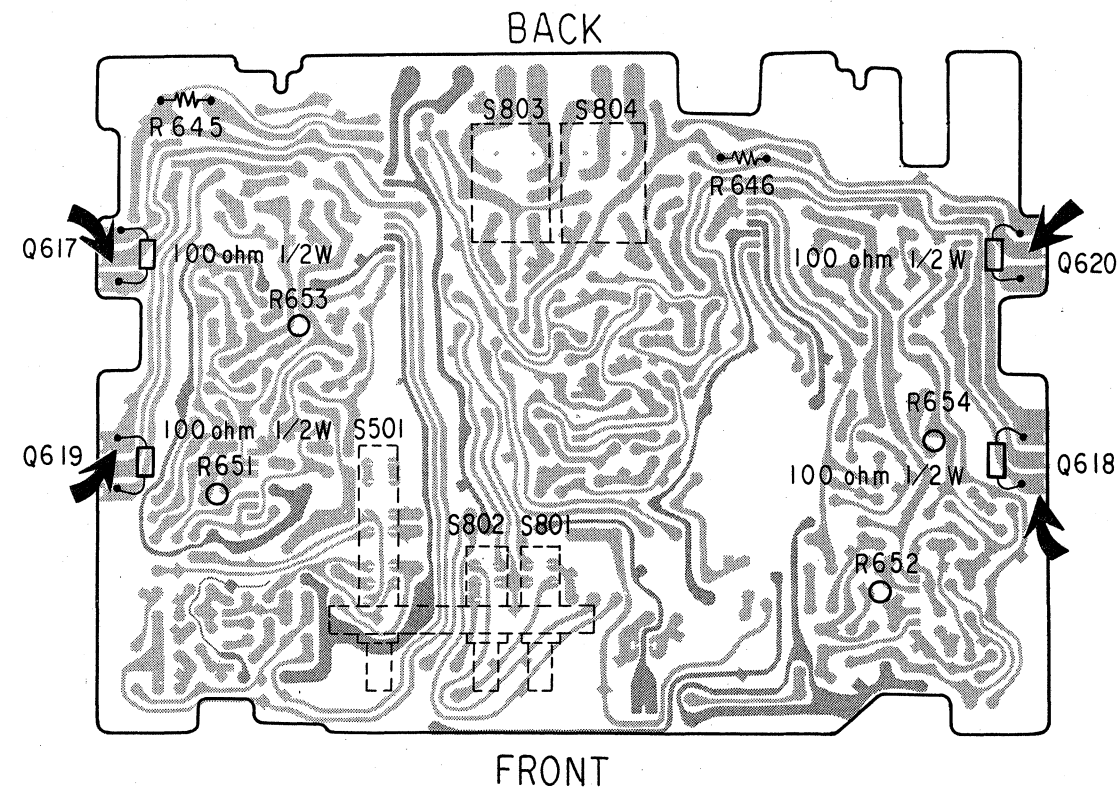

Figure 9.
1. Connect the DC voltmeter to the both terminals of R645 (Rch.) and R646 (Lch.) and check the meter oscillation is kept within from 1mV to 2mV. See figure 9.
1. After removing the Bottom plate, unsolder the 12 (3 x 4) pins of 4 power transistors (Q617, 618 ... 2SD718, Q619, 620 ... 2SB688) from the Main P.C. Board and solder 4 pcs of 100 ohm 1/2W resistor (22563101) between emitter and base on the pattern at four points. See figure 9.